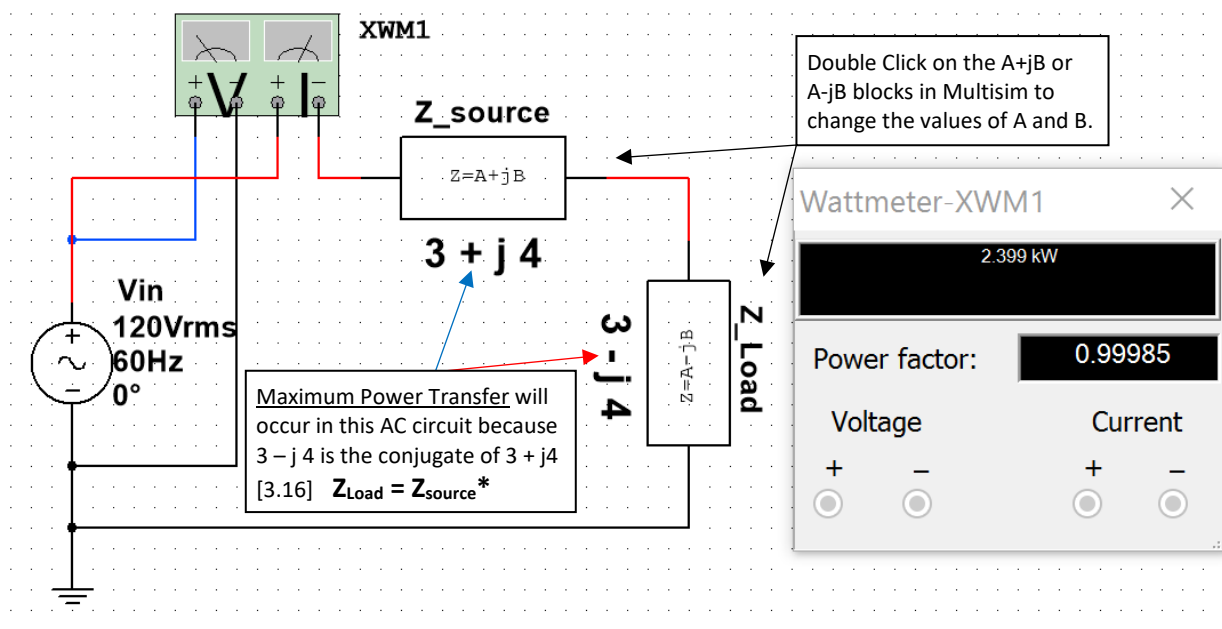

Figure 3.25: Circuit including Multisim Z_{load} s for Example 3.10.
- The Load impedance must be $3 - j 4$ for maximum power transfer (as shown in Figure 3.25).